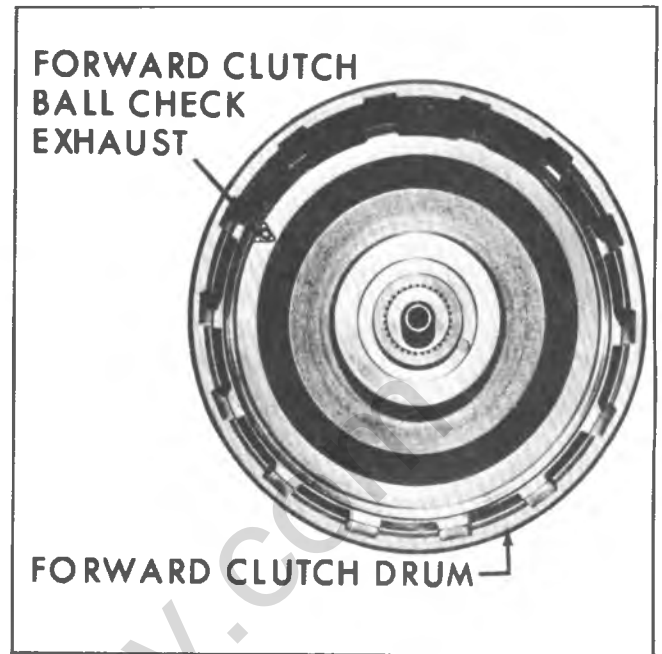

Fig. 82M--Forward Clutch Exhaust Check Ball
2. Inspect twenty one (21) springs for collapsed coils or signs of distortion.
4. Inspect clutch housing for wear, scoring, open oil passages and free operation of exhaust check ball (fig. 82M).